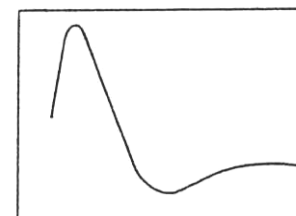

Fig. 21
5. Set the output current to 2000A with the SURGE ADJ knob ⑤, press the MANUAL trigger switch ⑦ and check the waveform displayed on the oscilloscope screen. The waveform is seen as in Fig. 21. (Polarity: +)
5. Set the output current to 2000A, turn on the MANUAL trigger switch ⑦ and check the waveform displayed on the oscilloscope screen.
6. The waveform is usually seen as shown in Fig. 21 but, waveforms which are different from actual ones are sometimes observed caused by the frequency characteristics of the current probe. For details of the waveform, refer to the JEC-212 standard.